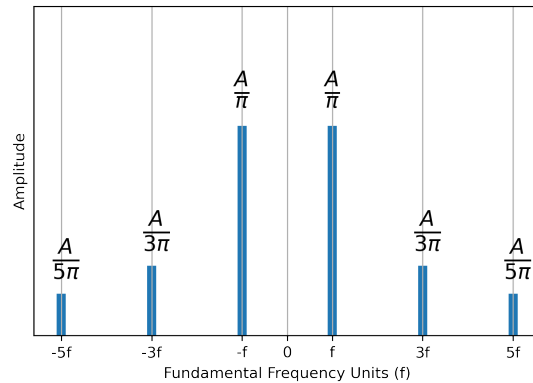

Figure 1
**niUSRP Configure Signal** is used to set the parameter values. Attach four controls and three indicators to this VI as shown in Figure 1. The controls set the **IQ rate** (in Sample/s), the **carrier frequency**, the **gain**, and the **active antenna**. When the VI runs, the radio returns the actual values of these parameters (called “coerced parameters”). The actual parameters may or may not match the values put as controls. If an input value exceeds the capability of the radio, it will choose the nearest acceptable parameter value, as the coerced value, rather than returning an error.
Where  $n$  is the frequency index, as a multiple of the fundamental frequency  $f$  of the pulse train. Therefore, the Fourier coefficients are 0 for the even indexes and then  $\frac{A}{n\pi}$  for the odd indices. In our case  $A = \frac{1}{2}$ . The Fourier Transform of this square wave filter is shown below in Figure 1: